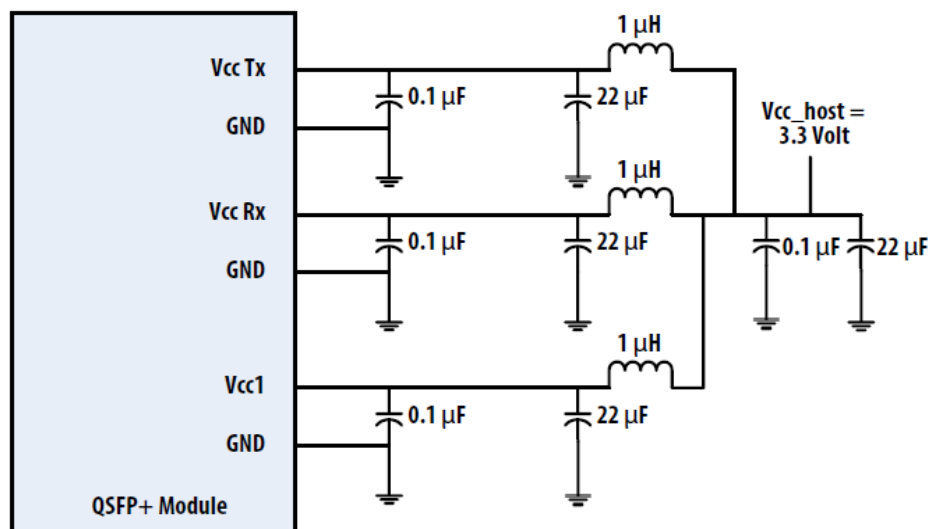

Figure 4. Recommended Power Supply Filter
2. VccRx, VccI and VccTx are the receiver and transmitter power suppliers and shall be applied concurrently. Recommended host board power supply filtering is shown in Figure 4 below. Vcc Rx, VccI and Vcc Tx may be internally connected within the QSFP28 transceiver module in any combination. The connector pins are each rated for a maximum current of 1000mA.